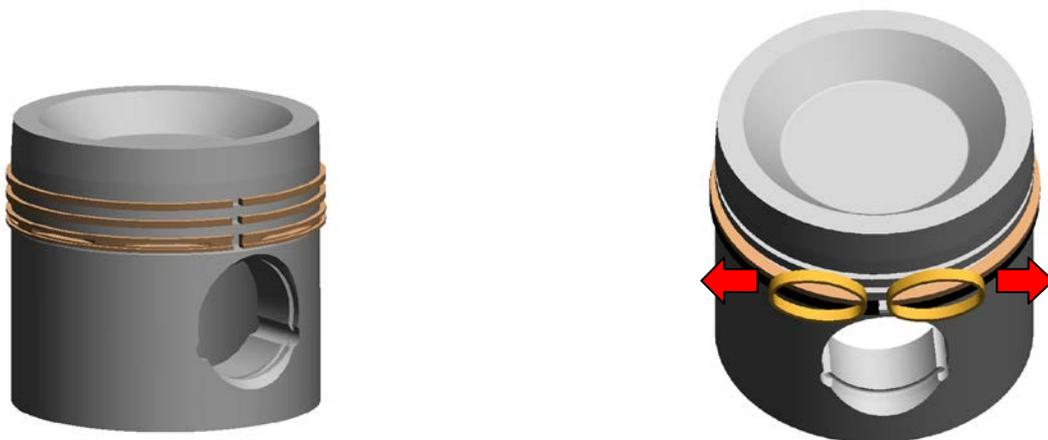

Fig.8.13 Removing Piston Rings (P/N89&90)
- b . Utilize hooks or a pair of piston ring pliers or bindings to expand the ring end gap on the same plane to facilitate removal of the ring. (Refer to Fig.8.13)